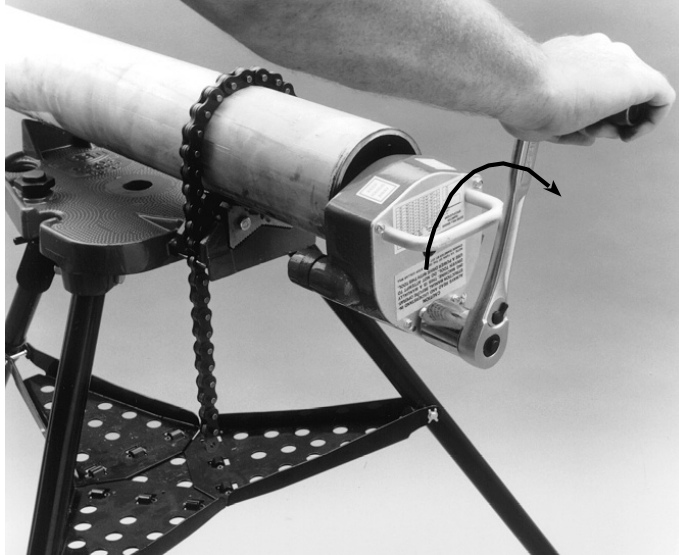

Fig. 5. Turning crank handle
5. Continue turning the feed nut and cranking the tool around the pipe. Once the jam nuts rest against the trunnion, continue to crank the tool around for one more revolution. (See Fig. 5.)